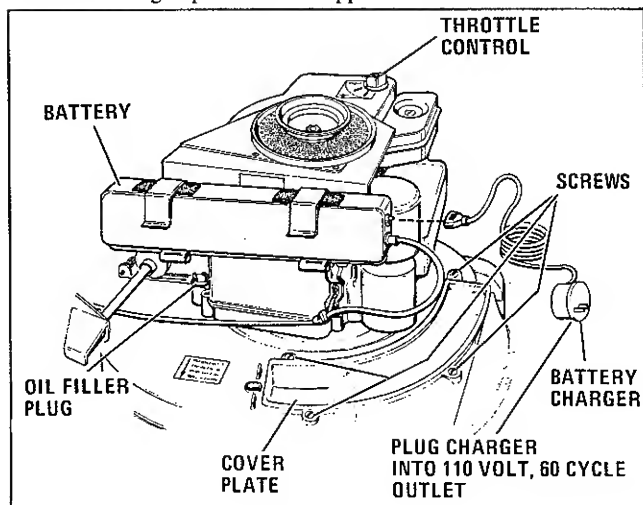

Figure 6
2. Remove 4 screws and coverplate. See Fig. 6.
3. Remove the fill plug, Fig. 6, from the crankcase by rotating counter-clockwise and fill the crankcase with SAE 30 oil grade MS until the oil is level with the top of the filler neck. Re-install the filler plug with firm hand pressure.